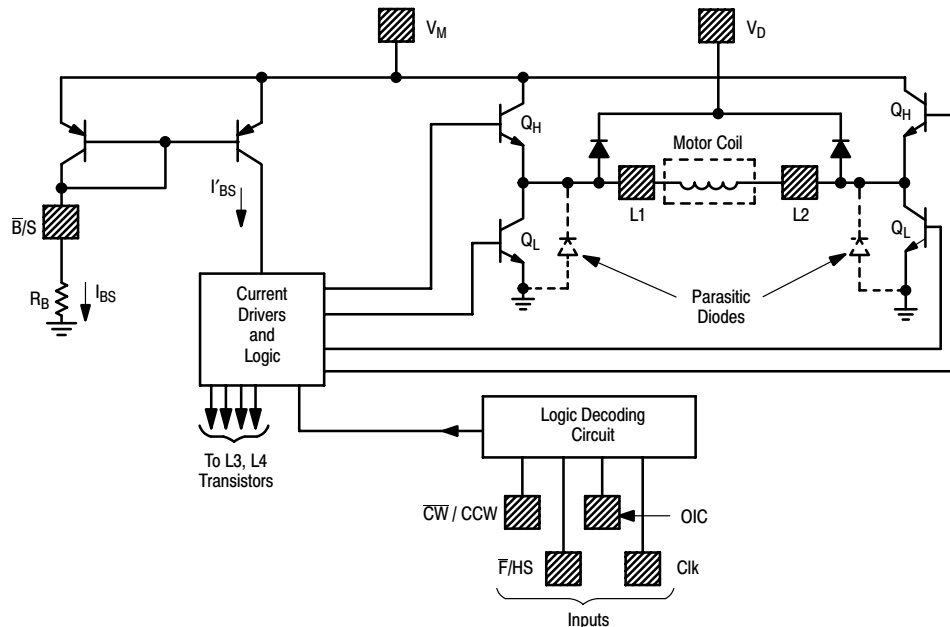
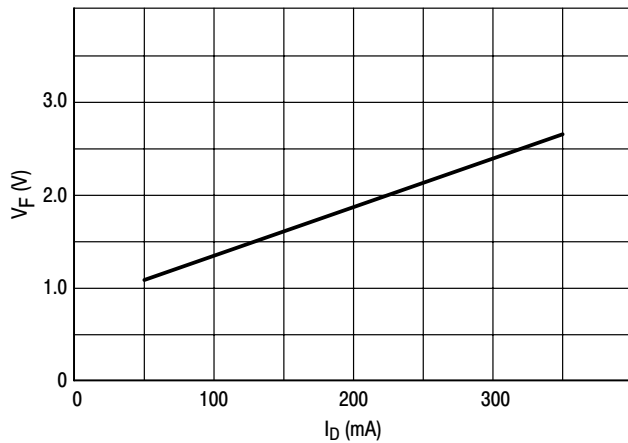
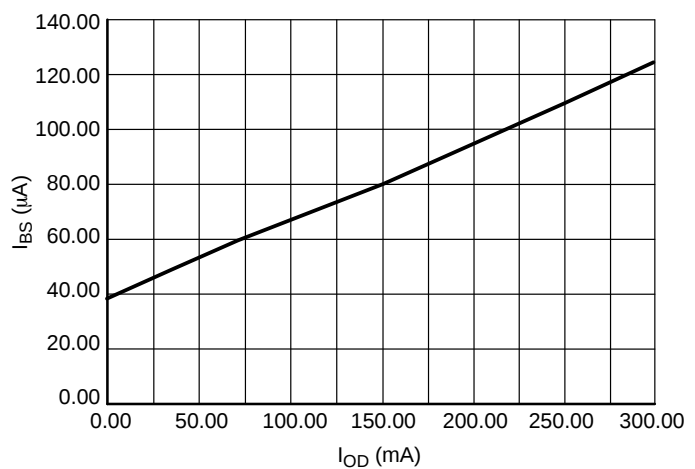

Figure 5. Output Stages
Figure 6. Clamp Diode Characteristics
Figure 11. Bias/Set Current – Output Drive Current
The outputs (L1–L4) are high current outputs (see Figure 5), which when connected to a two-phase motor, provide two full-bridge configurations (L3 and L4 are not shown in Figure 5). The polarities applied to the motor coils depend on which transistor (Q_H or Q_L) of each output is on, which in turn depends on the inputs and the decoding circuitry.
are to be in a high impedance state, both transistors (Q_H and Q_L of Figure 5) of each output are off.
This pin allows for provision of a current path for the motor coil current during switching, in order to suppress back-EMF voltage spikes. V_D is normally connected to V_M (Pin 16) through a diode (zener or regular), a resistor, or directly. The peaks instantaneous voltage at the outputs must not exceed V_M by more than 6.0 V. The voltage drop across the internal clamping diodes must be included in this portion of the design (see Figure 6). Note the parasitic diodes (Figure 5) across each Q_L of each output provide for a complete circuit path for the switched current.
The output impedance control input determines the output impedance to the de-energized coil when operating in the half-step mode. When the outputs are in $\overline{\text{Phase B}}$, $\overline{\text{D}}$, $\overline{\text{F}}$ or $\overline{\text{H}}$ (Figure 7) and this input is at a Logic “0” (<0.8 V), the two outputs to the de-energized coil are in a high impedance condition – Q_L and Q_H of both outputs (Figure 5) are off. When this input is at a Logic “1” (>2.0 V), a low impedance output is provided to the de-energized coil as both outputs have Q_H on (Q_L off). To complete the low impedance path requires connecting V_D to V_M as described elsewhere in this data sheet.
a) The maximum output sink current is determined by the base drive current supplied to the lower transistors (Q_Ls of Figure 5) of each output, which in turn, is a function of I_{BS}. The appropriate value of I_{BS} can be approximated using Figure 11.
For example, assume an application where $V_M = 12$ V, the motor requires 200 mA/coil, operating at room temperature with no heatsink on the IC. From Figure 11, I_{BS} is determined to be 95 μ A.